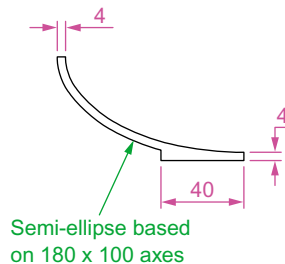

Fig. 12.20 Second example – **Revolve**. The pline outline
3. Construct the pline outline (Fig. 12.20).